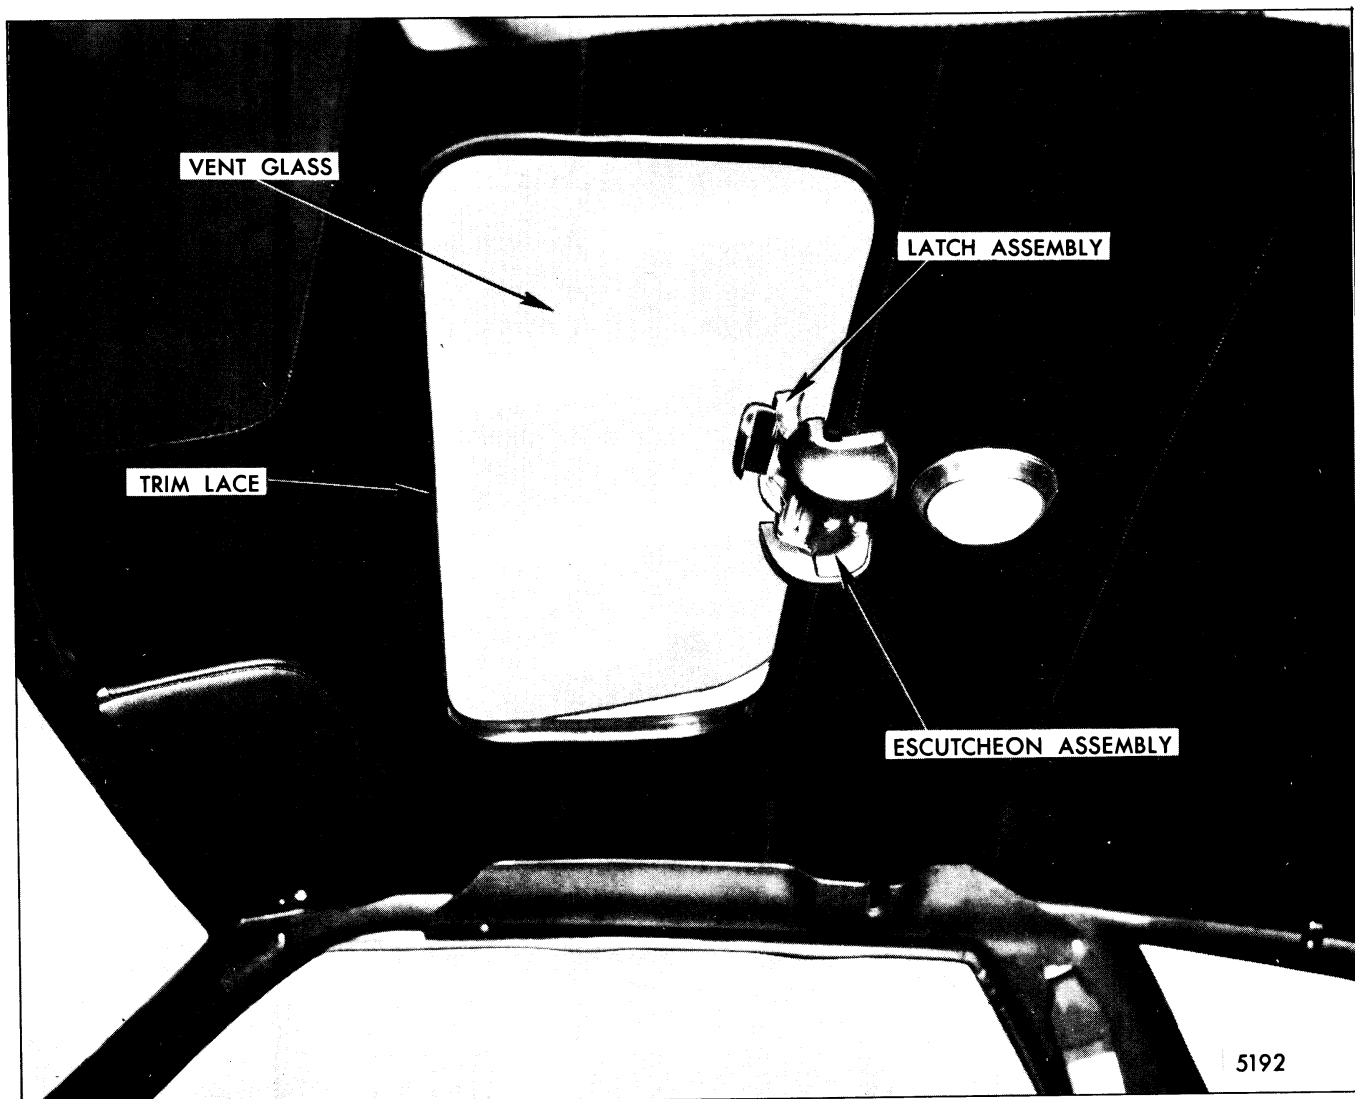

Fig. 8-11-Vista Vent Interior View - (Open)
1. Open vista vent fully and remove latch escutcheon assembly. Detach roof opening trim lace along front edge of opening (Fig. 8-11).
1. Open vista vent fully and detach roof opening trim lace along front of opening (Fig. 8-11).
1. Open vista vent fully and remove latch escutcheon assembly (Fig. 8-11).
1. With vista vent open, detach roof opening trim lace along front edge of opening (Fig. 8-11).